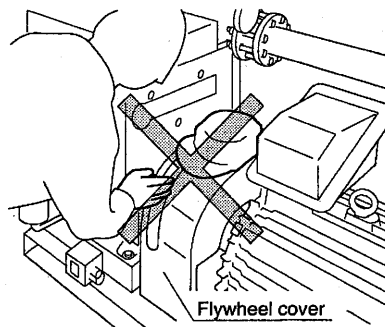

Fig. 1
- * **Do not put the hand or a part of the body in the flywheel cover while the motor is rotating. (Fig. 1)**
- * **Do not put any substance on the flywheel cover. (Fig. 1)**